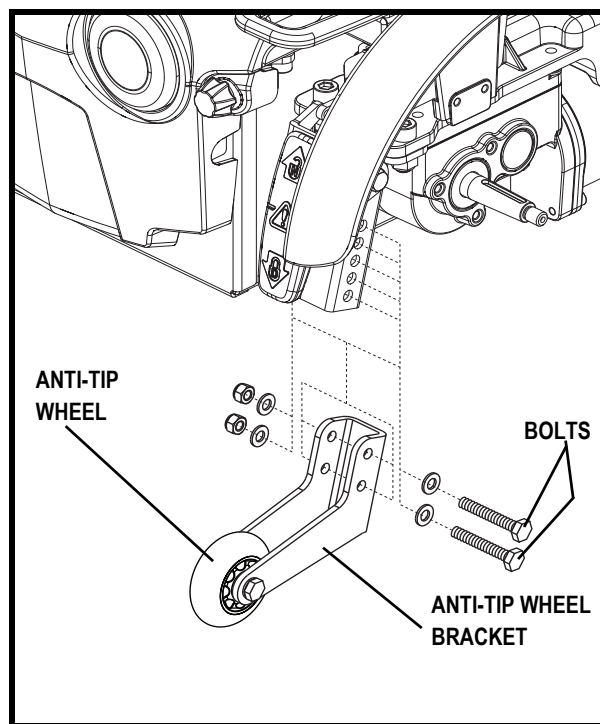

Figure 21. Anti-Tip Wheel Assembly
1. Remove both bolts from the anti-tip wheel bracket. See figure 21.
2. Raise or lower the anti-tip wheel in 1,25-cm (0,5-in.) increments by aligning the appropriate adjustment holes. See figure 21.